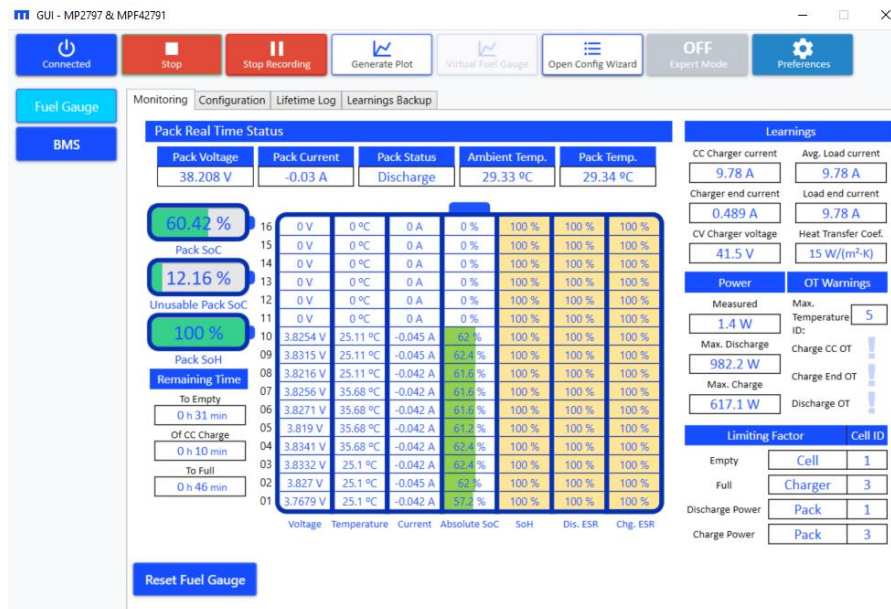

Figure 55: Recording
1. While the GUI reads the monitoring registers, the “Record” button is enabled (see Figure 55).
3. Click “Stop Recording” to stop logging into the .csv file (see Figure 55).